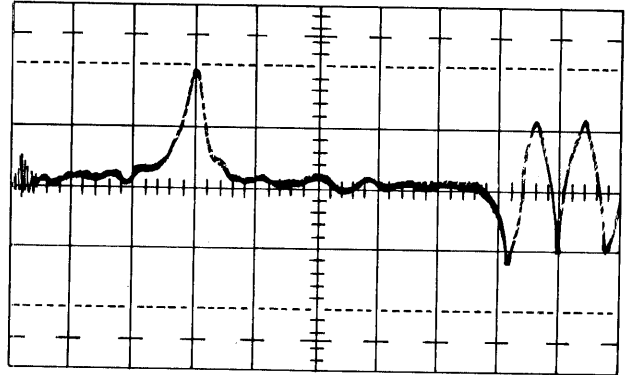

Figure 5-68. Radial Check
- x. Monitor read data playback (see Figure 5-68).